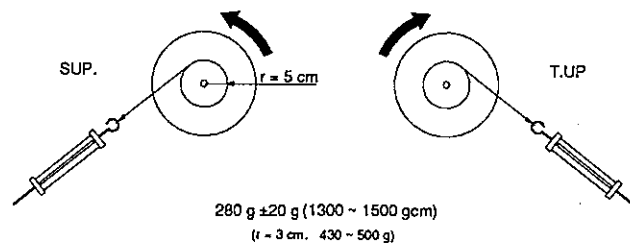

Figure 4-10
3. Place the reel on the Supply Reel Table so that the reel rotates counter-clockwise when the string is pulled. Refer to **Figure 4-10**.